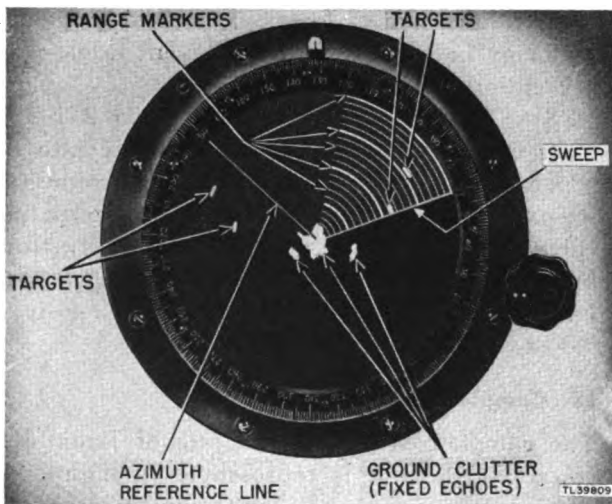

Figure 100. PPI scope, general appearance.
*b. APPEARANCE OF PPI SCOPE.* Figure 100 shows the physical appearance of the PPI scope. The sweep is radial from the center of the outside edge of the tube. The radar set is considered to be at the center of the face of the scope. The distance radially from the center of the scope to the bright dot is proportional to the range of the target. The angular position of the sweep is synchronized with the azimuth position of the antenna so that the sweep rotates as the azimuth of the antenna is changed. The angular position of the bright spot representing the target therefore corresponds to the azimuth of the target.